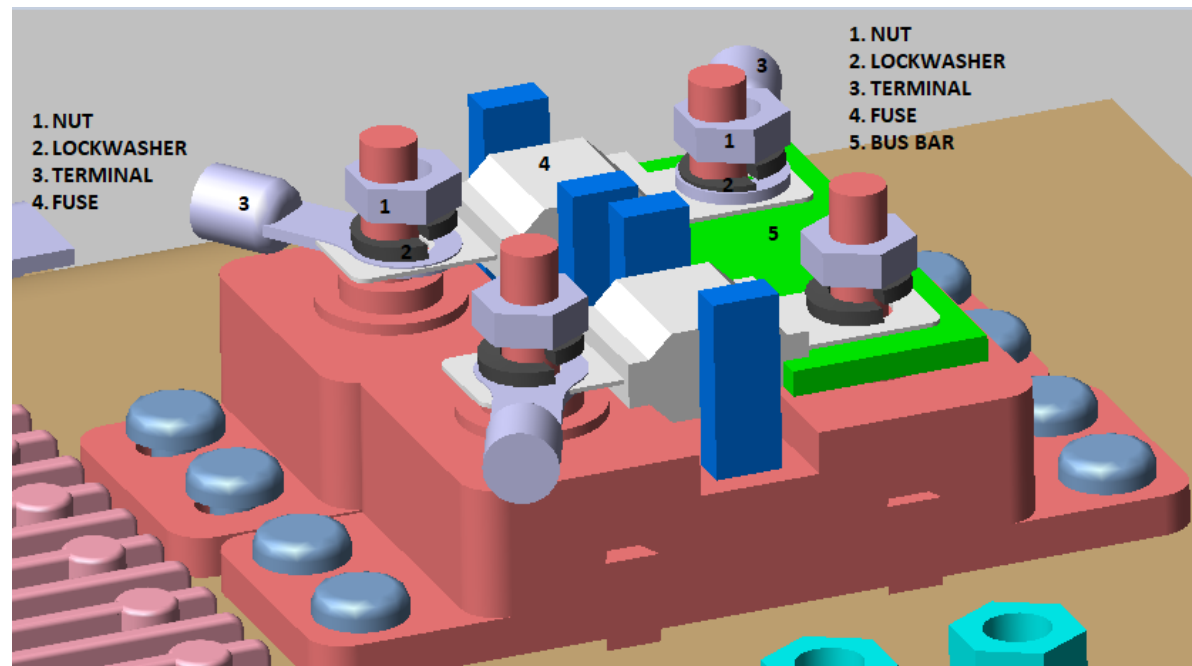

Figure 1
2. First inspect and verify that the Lock Washer (Item 2) is positioned under the nut (Item 1), then verify the fuses and power wires to the dual fuse block are properly oriented and secured (See Figure 1 and 2 below). Verify the nuts on fuse block are tight. Verify wires are not loose. \*NOTE- Terminal (Item 3) should be on TOP of the fuse. See Figure 1 for proper alignment.
3. If lock washers are properly aligned, but nuts are loose, tighten nuts to 3-5 N-m (26-44 inch-lbs.). If lock washer is not beneath the nut, disconnect battery power (required) and reassemble per Figure 1. Be sure the wires to the fuses are connected, as shown in Figure 2.